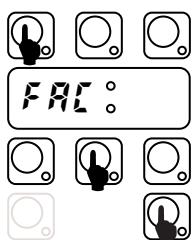

Fig. 33 Factory setting mode.
- Enter into the FACTORY SETTING mode by pressing and hold down ON/OFF and CYCLE\_2 keys for at least five seconds (Figure 33);